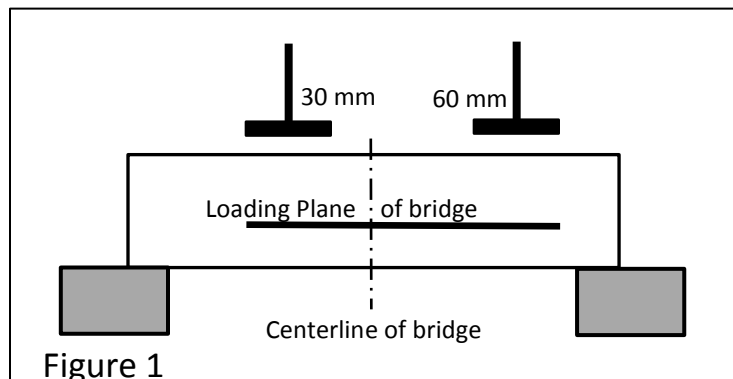

Figure 1
- c. The bridge must be constructed to provide a horizontal Loading Plane, for the loading plate at each of the loading locations on the longitudinal axis of the bridge; positioned 60 mm to the right of center, and 30 mm to the left of center (see Figure 1). The two loading locations must lie in the same horizontal plane. This loading plane must lie a distance (**P**) between 80 mm and 100 mm above the support surface of the bridge. The two loading locations must lie in the same horizontal plane (**hint: The Loading Plane is a minimum length of 130 mm; factoring half the width of the loading plate and the spacing from center = 80mm to the right and 50 mm to the left. Please refer to Figure 1**).